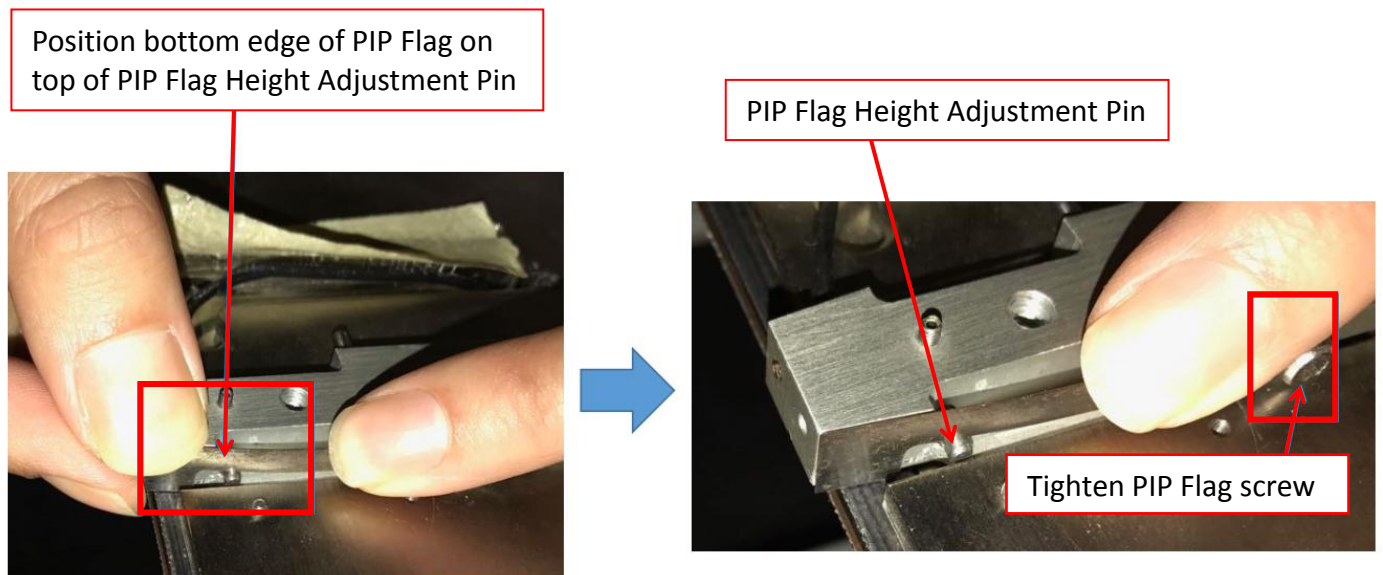

Figure 12 PIP Flag Height Adjustment Pin
8. Gently slide PIP Flag Height Adjustment Pin & position PIP Flag on top of the dowel pin. Hold the PIP Flag firmly & tighten PIP Flag Screw. May refer to Figure 12.